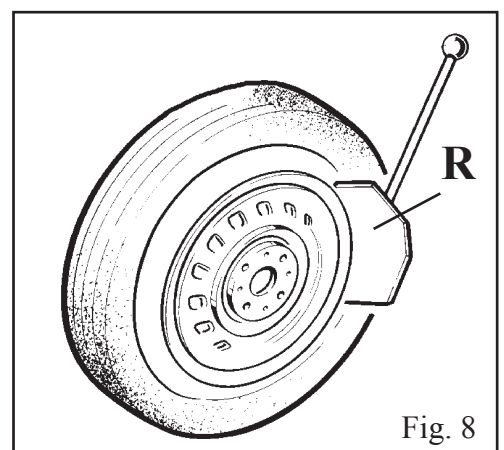

Fig. 8
- Accostare la ruota agli appoggi in gomma sulla parte destra dello smontagomme (S)
- Avvicinare la paletta (R) al tallone del pneumatico, mantenendo una distanza, dal bordo del cerchio, di circa 1 cm. (Fig.8)
- Position the wheel against the rubber stops on the right side of the tyre changer (S).
- Position the bead breaker blade (R) against the tyre bead at a distance of about 1 cm from the rim (fig.8). Pay attention to the blade, which must operate correctly onto the tyre and not onto the rim.
- Press down the pedal (U) to activate the bead breaker and release it when the blade has reached the end of its travel or in any case when the bead is broken.
•Appuyer la roue sur les supports en caoutchouc sur la droite du démonte-pneus (S).
•Approcher la palette (R) au talon du pneu en maintenant une distance d'un cm. environ du bord de la jante (fig.8).